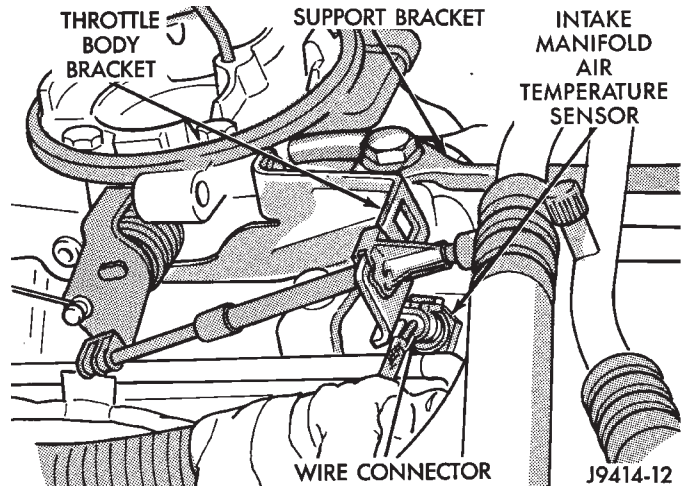

Fig. 68 Support Bracket—Generator Mounting Bracket-to-Intake Manifold—Typical
- (1) Disconnect negative battery cable at battery.
- (2) Drain cooling system until coolant level is below thermostat. Refer to Draining Cooling System in this group. If not equipped with air conditioning, proceed to step number 4.
- (3) If equipped with air conditioning:
- (a) Remove the support bracket (rod) located near the rear of generator (Fig. 68).
(b) Install support bracket (generator mounting bracket-to-intake manifold) (Fig. 68). Tighten bolts to 54 N·m (40 ft. lbs.) torque.